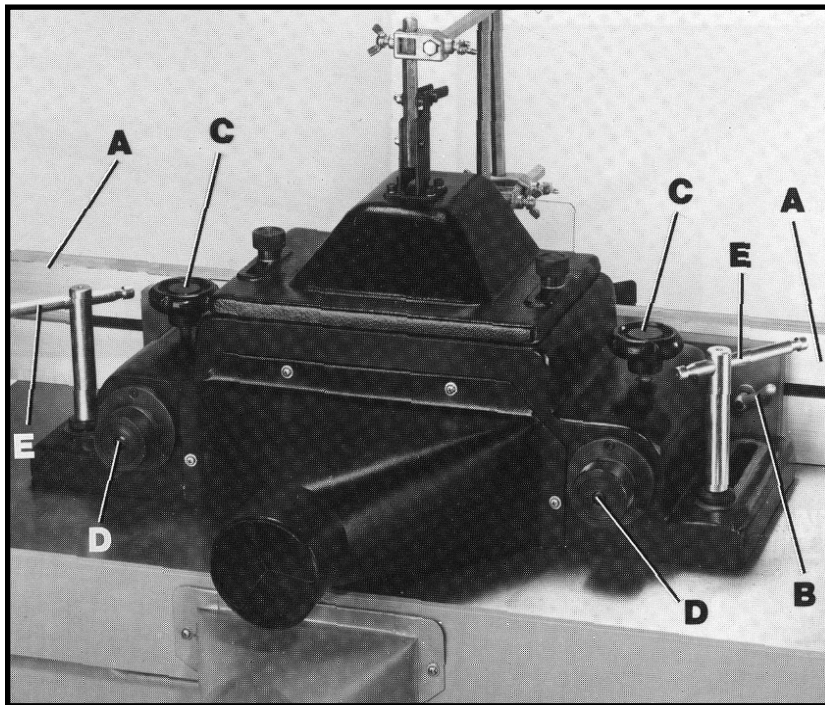

Fig. 25
1. **IMPORTANT:** The fence halves (A) Fig. 25, should be adjusted endwise so the opening at the spindle is never more than is required to clear the cutter.
2. To adjust the fence halves (A) Fig. 25, endwise, loosen the two fence locking levers, one of which is shown at (B), slide the fence halves to the required positions and tighten locking levers (B).
3. Each fence half (A) Fig. 25, can be moved independently, in or out, depending on the type of shaping operation that is being performed. To move the fence halves in or out, loosen one of the lock knobs (C) and turn one of the adjusting knobs (D), depending on which fence half is being moved. Turn knob (D) until the correct setting is obtained and tighten lock knob (C).
4. The complete fence assembly can be rapidly positioned on the table by loosening two clamp handles (E) Fig. 25, moving the fence assembly to the desired position and tightening the two clamp handles (E).